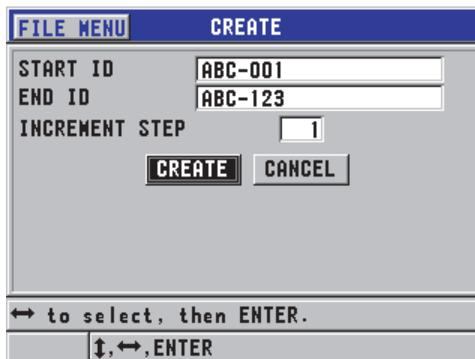

Figure 6-19 Selecting the ID range for the sequential file type
3. In the second page of the **CREATE** screen (see Figure 6-19 on page 94):